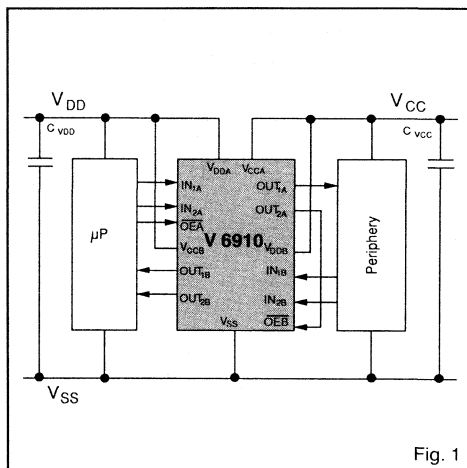

Fig. 1
1) A 100 nF decoupling capacitor is required on both  $V_{DDx}$  and  $V_{CCx}$  for stability (see Fig. 1).